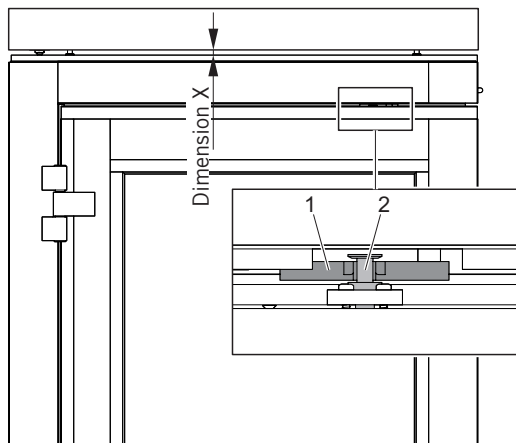

Fig. 30: Adjusting the holding fixture
- ▶ Turn the pressure plate upward if the holding fixture (Fig. 30/1) for the mushroom head (Fig. 30/2) extends beyond the mushroom head or if the dimension $X > 20$ mm.
- ▶ Turn the pressure plate downward if the holding fixture (Fig. 30/1) for the mushroom head (Fig. 30/2) is located before the recess in the profile or if the dimension $X < 20$ mm.